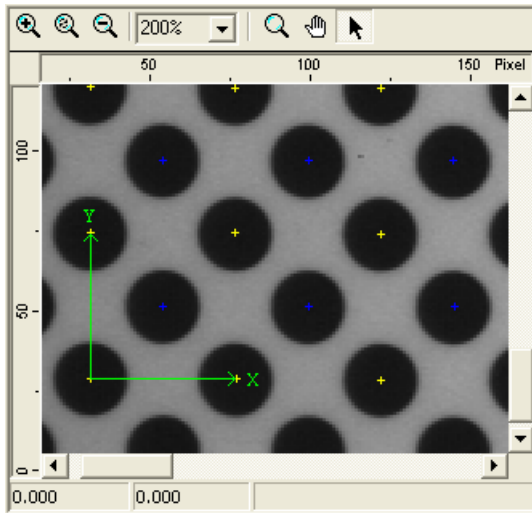

Figure 80 Zoom-in on the Coordinate Marker in the Calibration Dialog
9. Zoom in at the lower left corner of the display. The green coordinate system marker in the bottom left of the target displayed, as in Figure 80. Note that this coordinate system is displaceable programmatically or with the mouse; leave it as is for this tutorial.